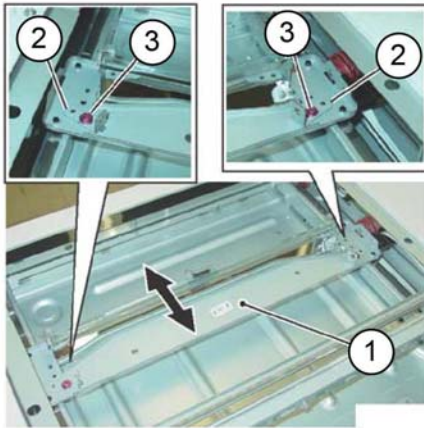

Figure 4 Half rate carriage positioning
6. Position the half rate carriage, **Figure 4**:
- a. Move the half rate carriage (1) to the alignment pin insertion position (the slots in the lower guide rails).
- b. Install the two alignment pins (2).
- c. Tighten the two screws (3).